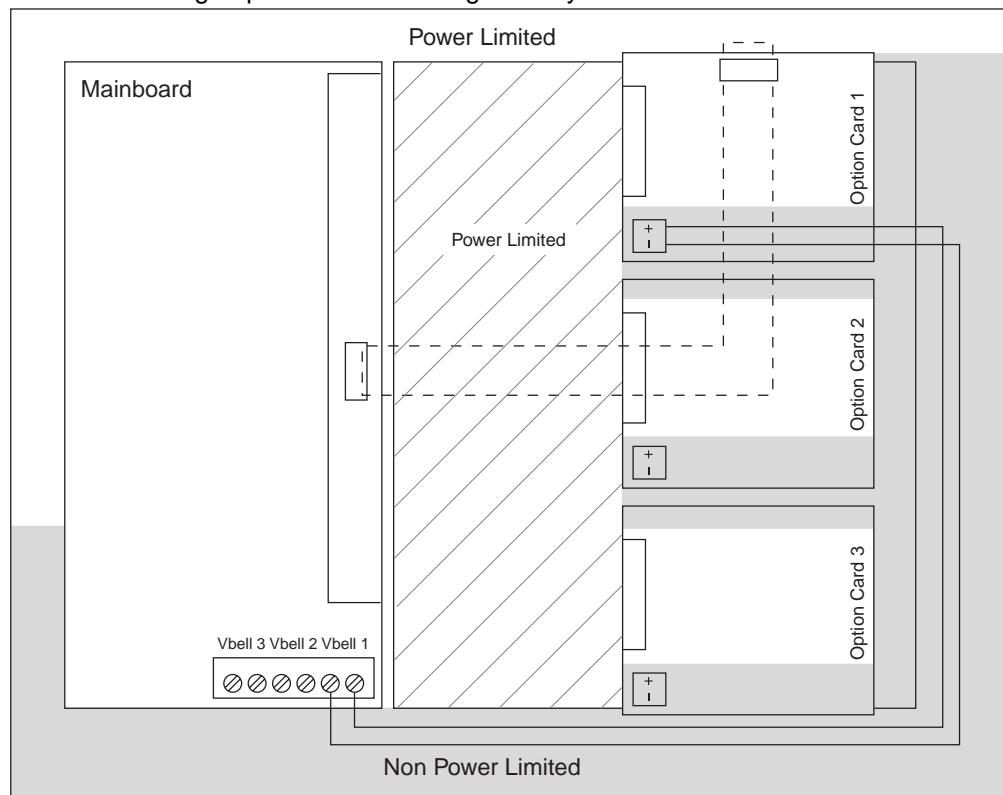
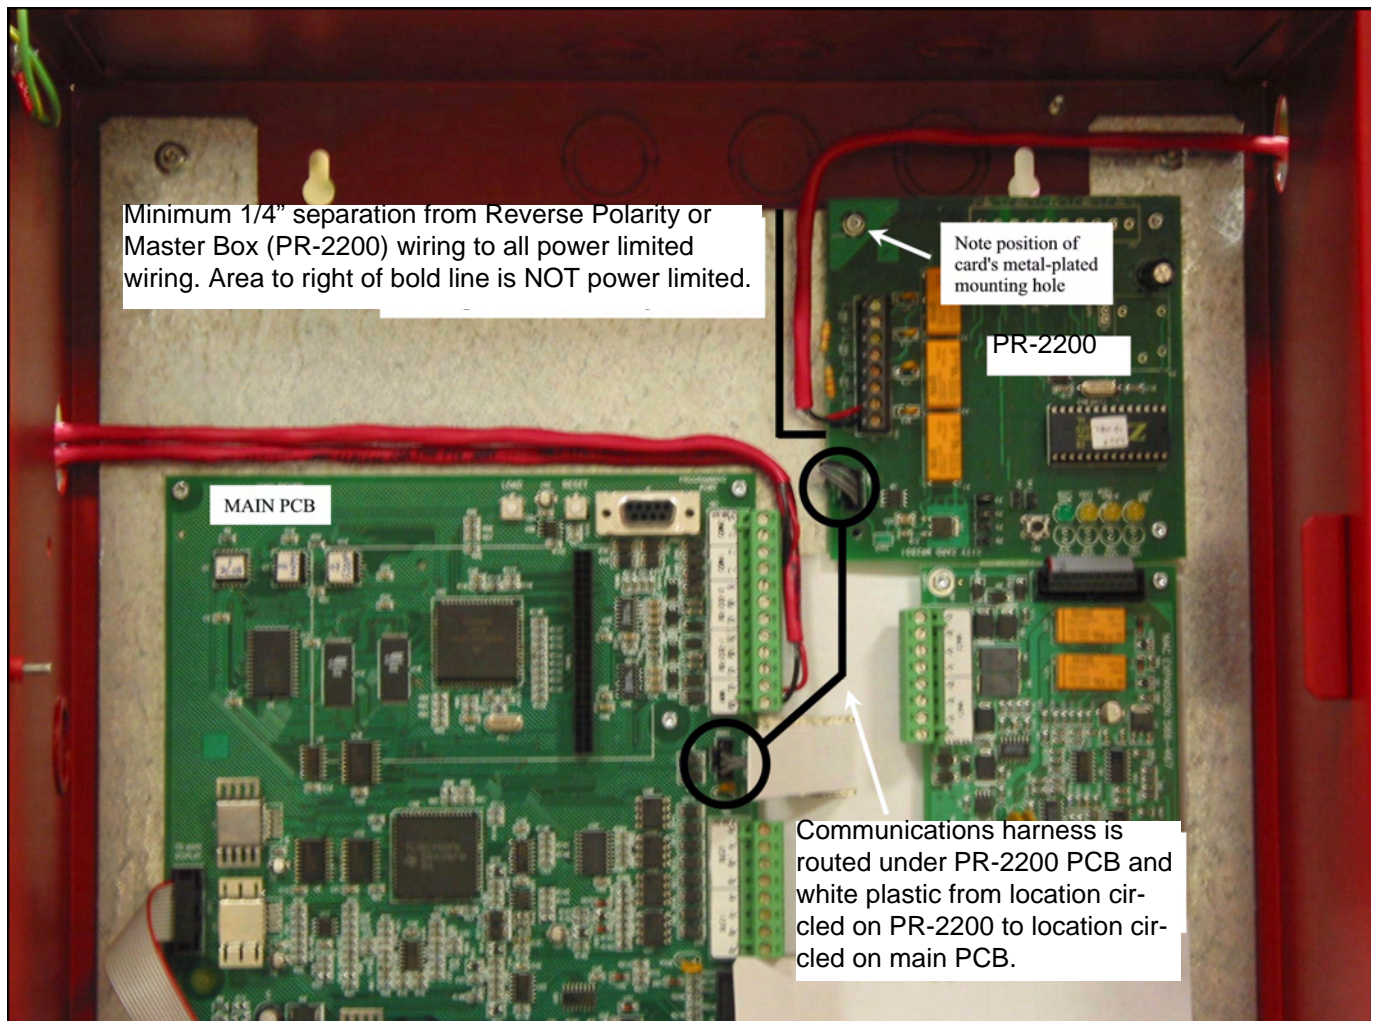

Figure 2: Power Limited Wiring Diagram
Figure 3: Power Limited Wiring, City Module
- Figure 2 shows the areas of the cabinet in which power limited/non-power limited wiring may be routed. Note that the location labeled Option Card 1 is not for the City (PR-2200). There is a location above Option Card 1 that is used for this card. Figure 3 shows the routing of power limited wiring to a city module.